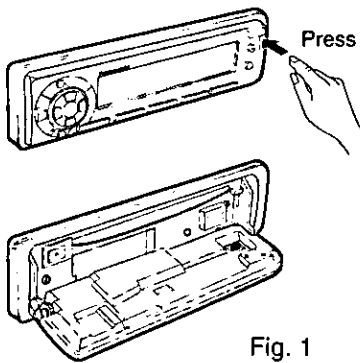

Fig. 1
- b) Pull out the unit while pushing two lock levers using screwdriver in the following order.(Fig.1, 2)